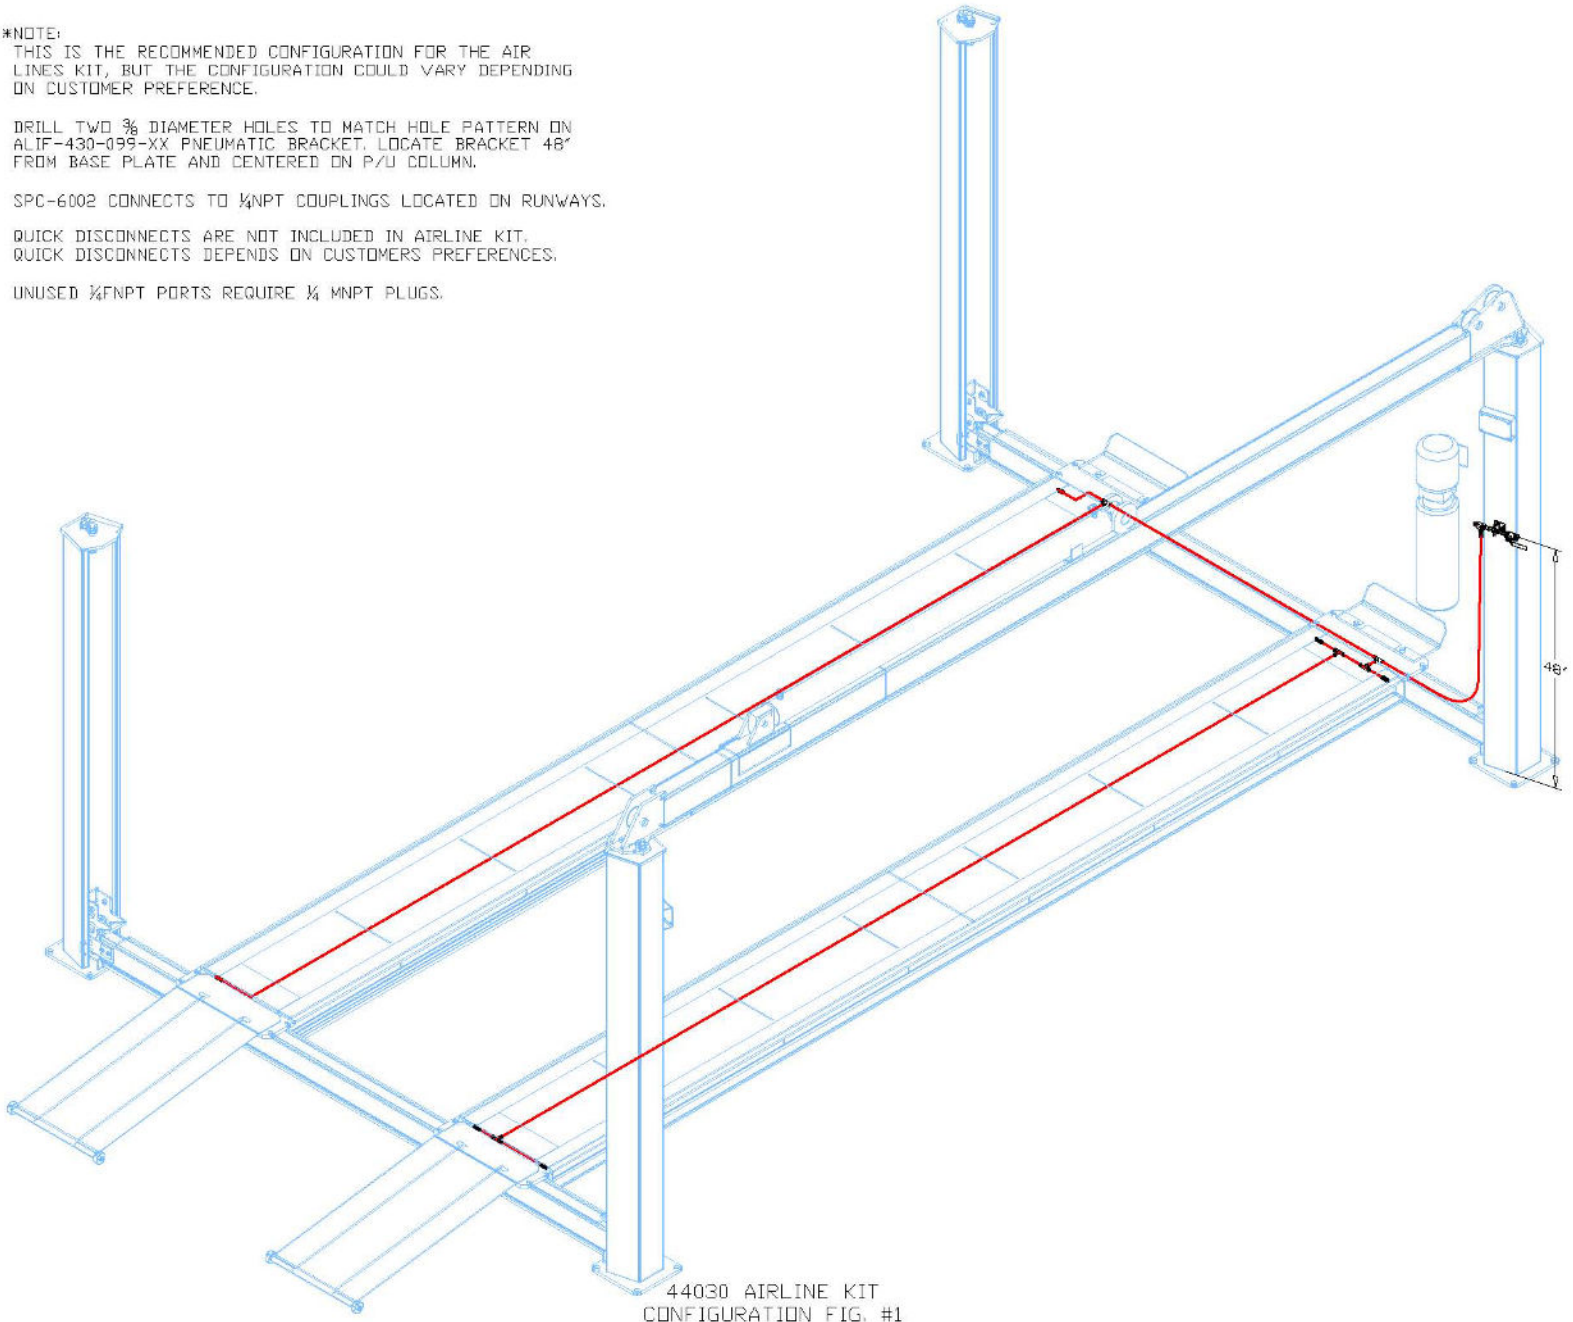

Figure 1
1. Using the pneumatic bracket as a template, drill two Ø3/8" holes centered on the power unit column 48" from the top of the base plate as shown in **Fig 1**. Note: Remove the steel shavings created by drilling the holes before operating the lift.